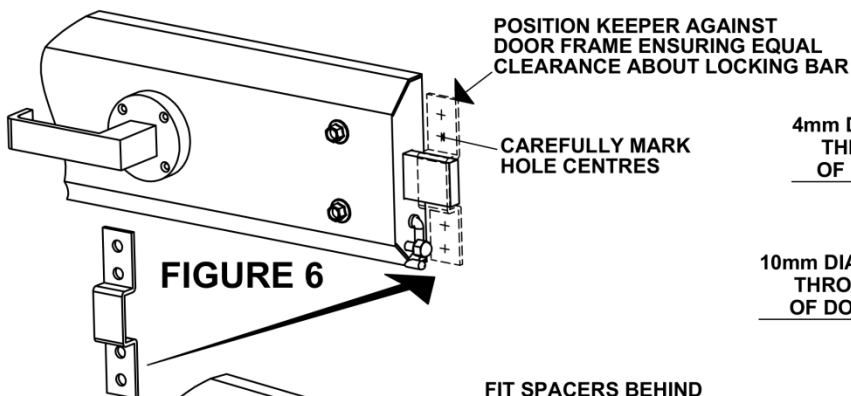

FIGURE 6
18. With door closed, activate the locking bars so that they are extended over the doorframe. Position the keepers over the locking bars & against the frame, ensuring that there is equal clearance around the bars. Mark hole positions in keepers onto frame. (Fig. 6)